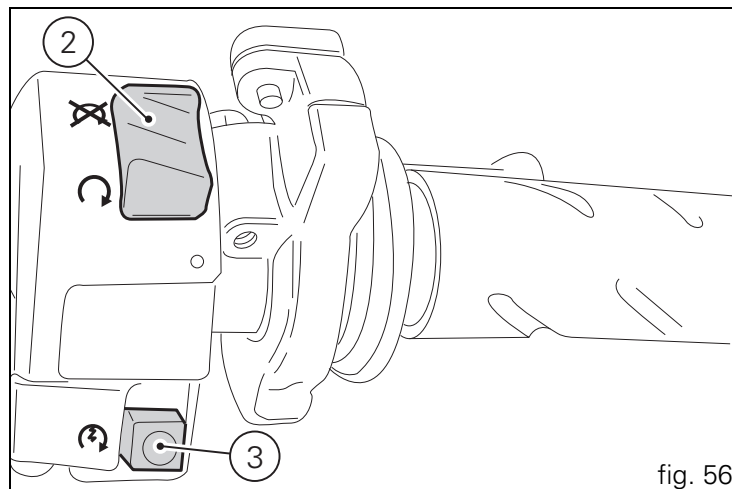

fig. 56
- 2) Check that the stop switch (2, fig. 56) is positioned to  (RUN), then press the starter button (3fig. 56).